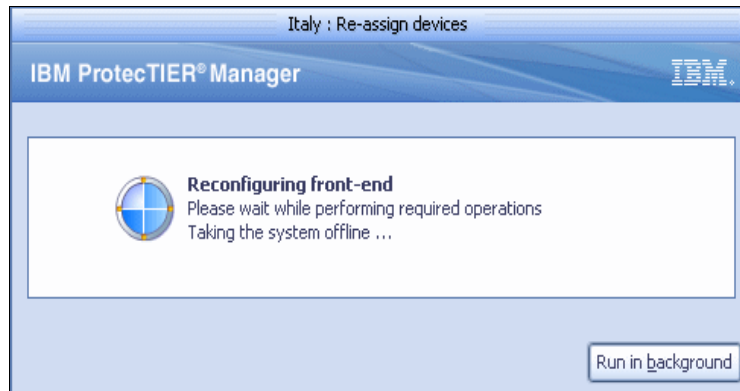

Figure 10-31 Re-assign devices: Reconfiguring the front-end window
10. Click **Yes**. The Re-assign devices wizard closes and the ProtecTIER system temporarily goes offline to update the library (Figure 10-31).